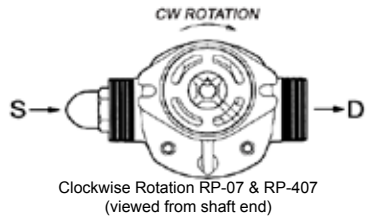

FIGURE 2
3. **SUCTION/DISCHARGE** - the RP series pumps are designed for clockwise rotation as standard (viewed from end of shaft). Refer to Figure 2.